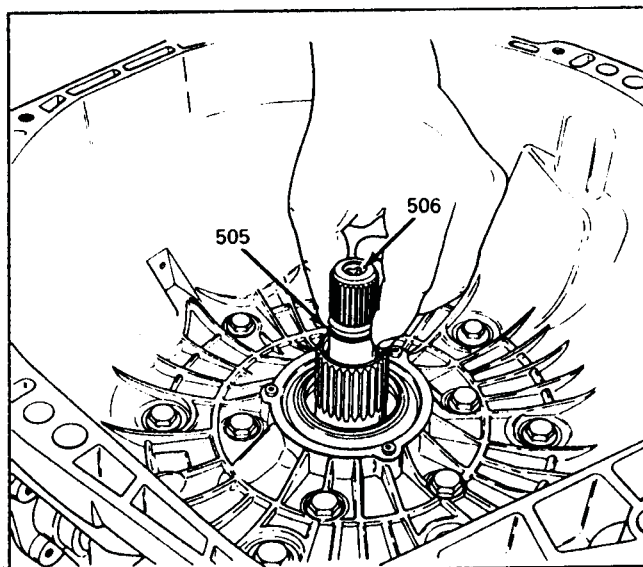

Figure 111
40. Install the turbine shaft "O" ring on the turbine shaft, as shown Figure 111.